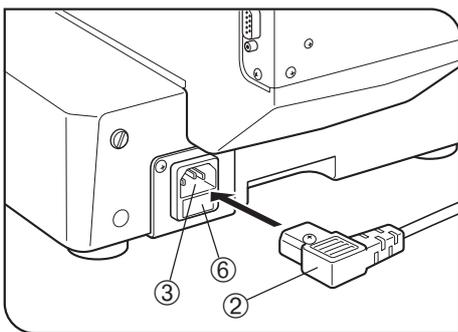

Fig. 28
1. Connect the power cord plug ② to the AC receptacle ③. (Fig. 28)
2. Connect the power cord plug ④ to a 3-conductor power outlet ⑤.
1. Always set the main switch ① to “○” (OFF) and disconnect the power cord before replacing fuses.
2. When the power cord plug is disconnected from the receptacle on the microscope frame, the fuse cassette ⑥ becomes visible. (Fig. 28).